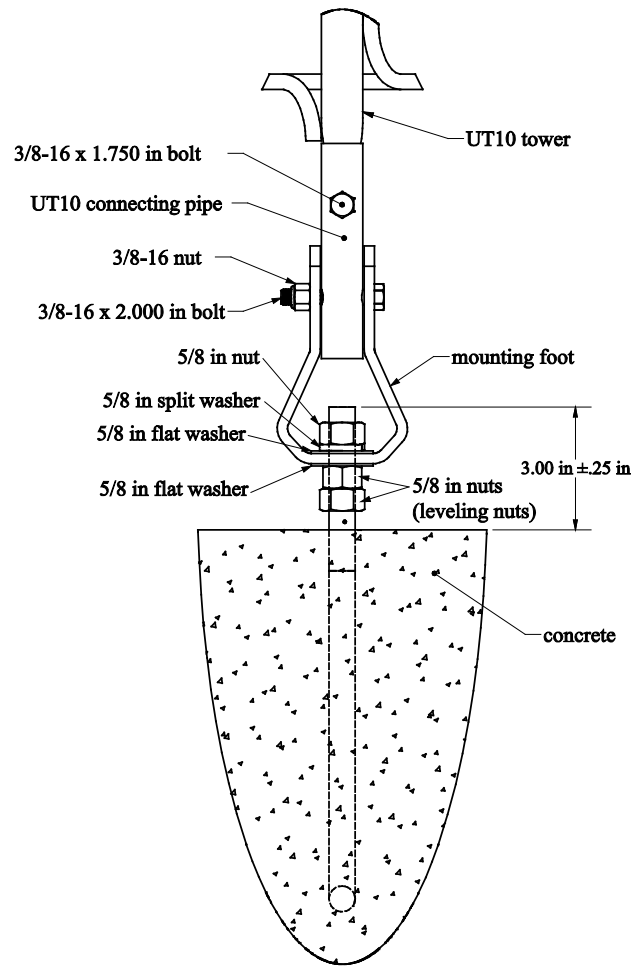

FIGURE 7-6. UT10 Mounting Foot Detail View
5. Place a 5/8 inch flat washer, a 5/8 inch split washer, and a 5/8 inch nut on each J-bolt. Do not tighten the nut (FIGURE 7-6).